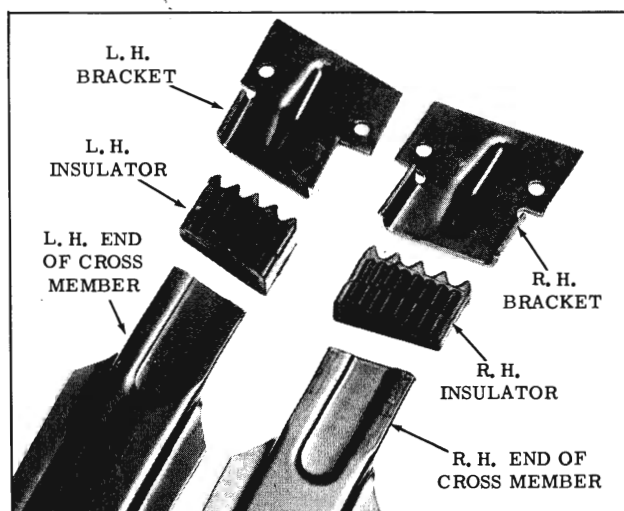

Fig. 6-141 Cross Member Insulator Installation
1. Position the R.H. insulator on the R.H. end of the cross member and the L.H. insulator on the L.H. end as shown in Fig. 6-141.